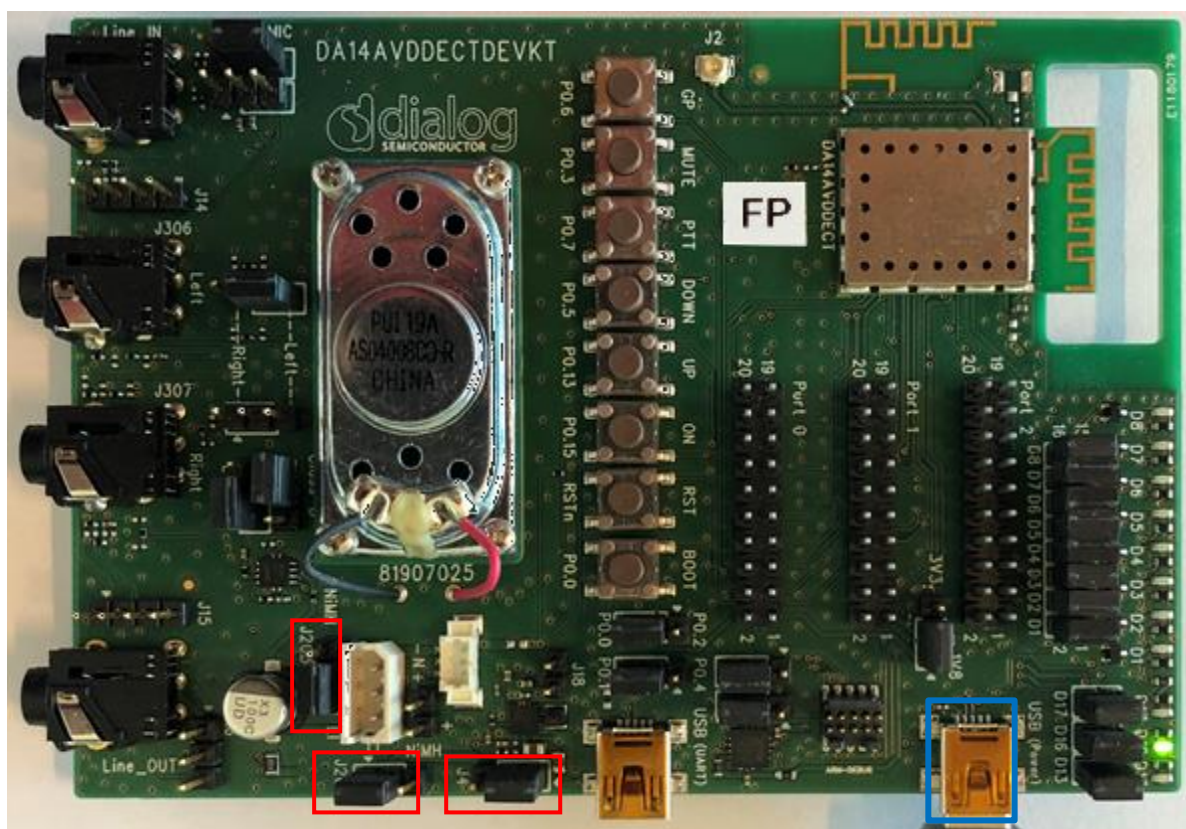
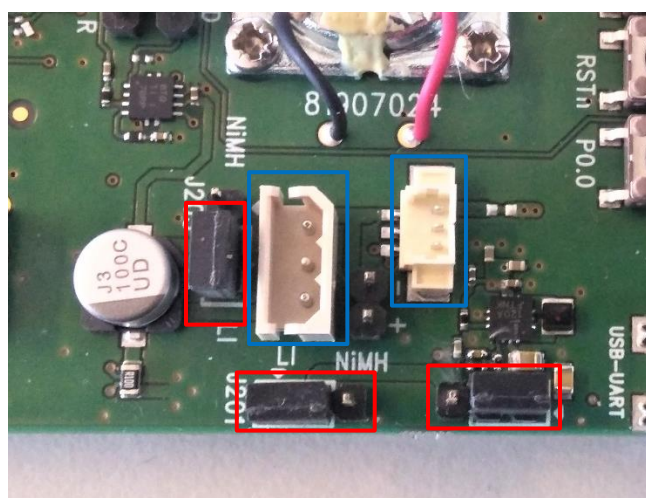

Figure 3: Board Power On
Figure 4: Jumper settings for Li-Ion batteries
Default jumper settings are marked by white rectangles on the PCB and jumper settings are the same for J203, J201, and J4 (Figure 3) when the board is powered from USB or Li-Ion battery. The carrier boards are shipped with the default jumper settings.
To power the carrier boards via USB, connect your PC to the miniUSB connector named "USB" on the carrier boards (marked blue in Figure 3). Use the default jumper settings for J203, J201, and J4 (marked with red on Figure 3 and also Figure 4 for zoomed image).
The carrier boards can also be powered from Li-Ion battery pack. The board has two 3-pin connectors for Li-Ion batteries (marked blue in Figure 4). Use the default jumper settings for J203, J201, and J4 (marked red in Figure 4). The carrier boards are shipped with these jumper settings.
1. Power up the fixed part (FP) carrier board either via miniUSB cable or from a battery. When power is supplied, the LEDs on the FP should light up, D5 red and D16 green, as shown in Figure 3. Power up the PP in the same way.